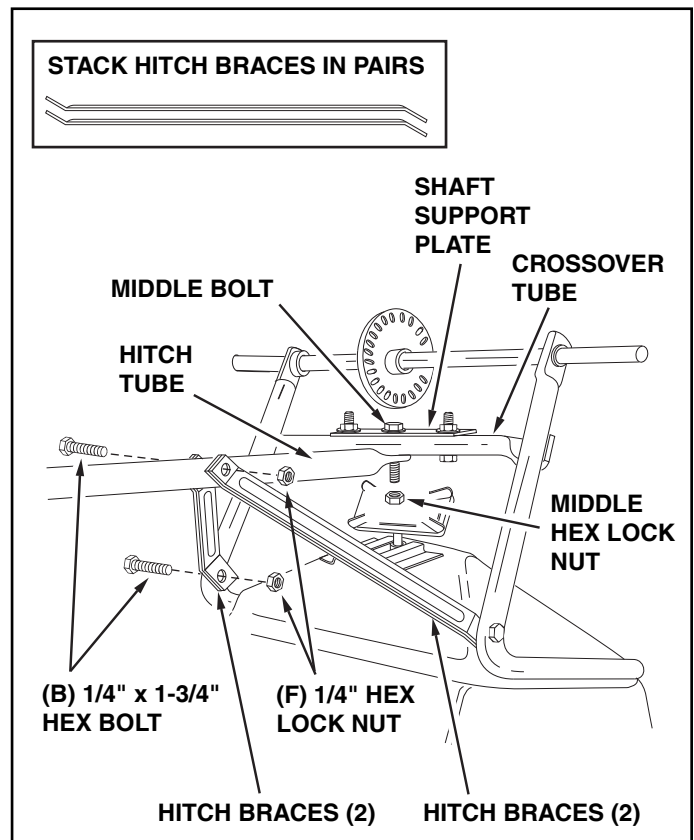

FIGURE 2
2. Assemble the two hitch braces to the inside of the hopper frame using a 1/4" x 1-3/4" hex bolt (B) and 1/4" hex nut (F) on each side. **DO NOT TIGHTEN YET.** See figure 2.
3. Remove the hex lock nut from the middle bolt in the crossover tube and shaft support plate. Do not remove the bolt. See figure 2.
4. Assemble the hitch tube onto the middle bolt and secure it with the same hex lock nut you removed. **DO NOT TIGHTEN YET.** See figure 2.
5. Turn the four hitch braces until they will fit together and then stack them in pairs. Assemble a pair of hitch braces on each side of the hitch tube using a 1/4" x 1-3/4" (B) hex bolt and a 1/4" hex lock nut (F). **DO NOT TIGHTEN YET.** See figure 2.